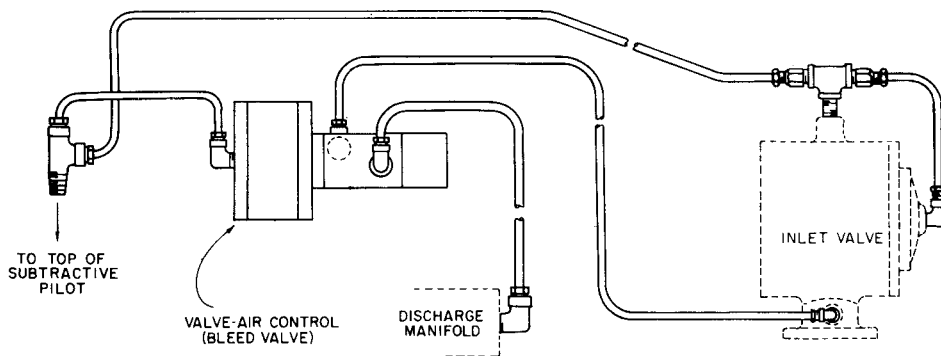

FIGURE 6b-4. — BLEED AIR VALVE FOR
**Bleed Air Valve** (Models ESM & ECK\_M Only) (Figure 6b-4) — A pilot-operated bleed air valve is provided in the inlet valve system to admit air to the compressor to scavenge oil during the unloaded cycle. The subtractive pilot admits air to the bleed air valve piston at the same time as air is being admitted to the inlet valve piston at the beginning of the unloaded cycle. The bleed air valve piston shifts, allowing air to pass from the oil reservoir to the inlet valve behind the closed inlet valve, providing scavenging air as long as the compressor remains unloaded.